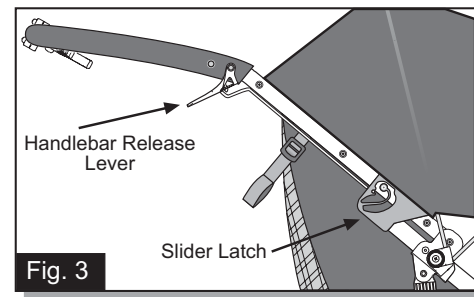

Fig. 3
- 3 HANDLE:** Rotate the stroller handle up to the fully open position. Slider Latches will lock into place (Fig. 3).